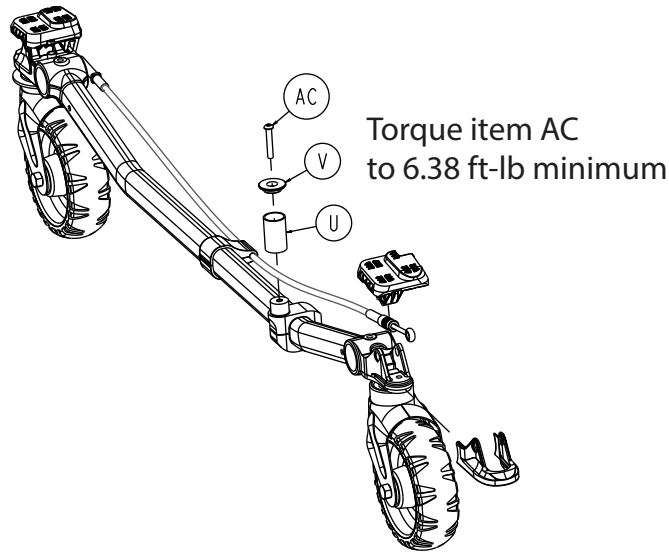

Figure 41 – Remove and discard the button head cap screw
1. Using a T27 Torx driver, remove the button head cap screw (AC) that secures the retaining post cap (V) and retaining post body (U) to the top bracket (Figure 41). Discard the screw.